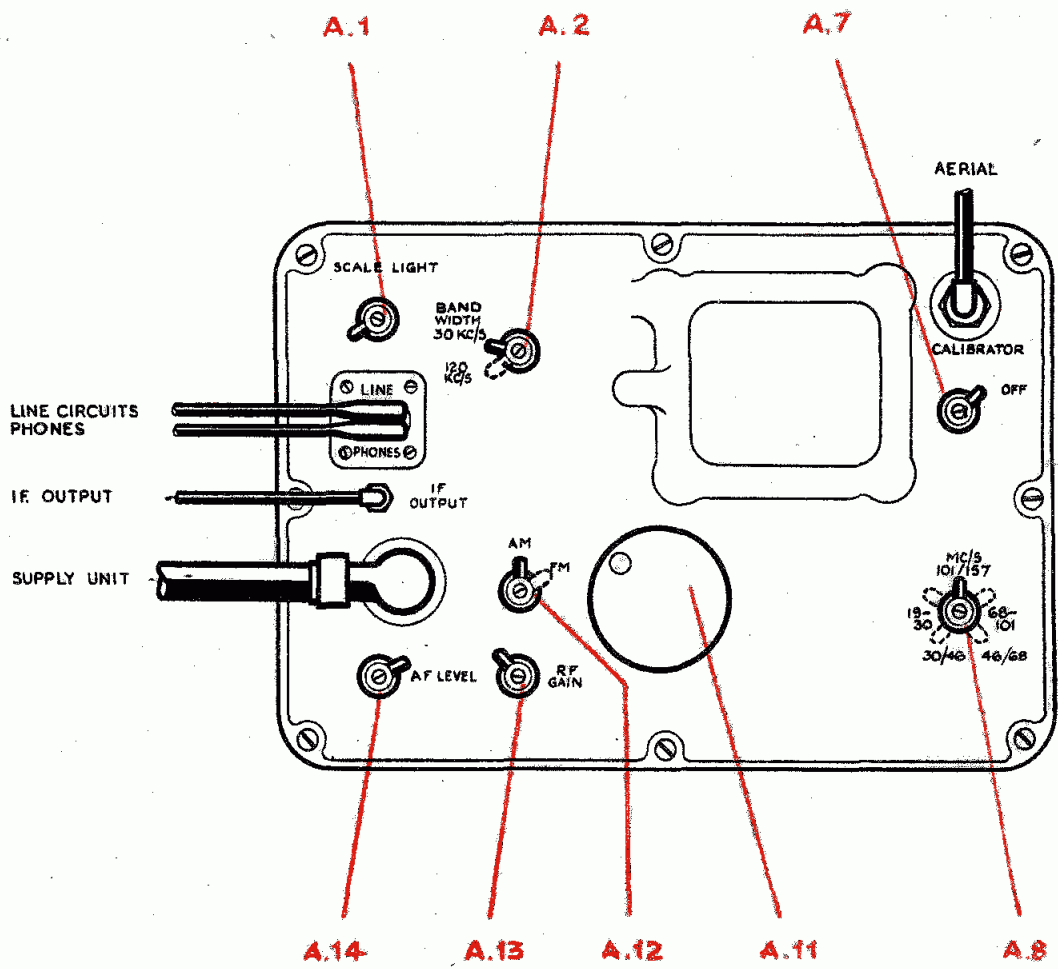

FIG. 14. TO TUNE THE RECEIVER FOR SEARCH PURPOSES
Refer to fig. 14.
- (2) Set the SCALE LIGHT control in the top left-hand corner of the receiver panel (A.1 in fig.14) to the required degree of brilliance, turning the switch clockwise to increase.
- (3) Check that the CALIBRATOR switch (A.7 in fig.14) is turned to the OFF position.
- (4) Check that the RF GAIN control (A.13) is in its fully anti-clockwise position.
- (5) Check that the AF LEVEL control (A.14) is at approximately the mid-point of its traverse.
- (6) Set the frequency band switch (A.8) to select the frequency band, over which it is intended to search. The frequency scale covering this band will then be illuminated by the scale light.
- (7) Set the system switch (A.12) to AM or FM as required. It should be noted that when listening on AM, an FM signal may be recognised by the fact that it will be distorted at the mid-tuning point but will become intelligible on either side of this point.
- (8) Set the BANDWIDTH switch (A.2) to "30 KCS" for AM, or to "120 KCS" for FM.
- (9) Turn the RF GAIN control (A.13) in a clockwise direction until receiver noise is heard.
- (10) Search for the required transmission by rotating the tuning control (A.11) slowly until a signal is heard in the headphones. If the approximate frequency of the required transmission is known, set the tuning dial to this frequency before commencing to search.
- (11) Adjust the RF GAIN control (A.13) to obtain a maximum output without overloading the set. This control will not necessarily be set to its fully clockwise position to obtain maximum output.
- (12) Adjust the AF LEVEL control (A.14) until the received signal is at a comfortable level.
- (13) When the transmission of signals to line is required and the operator at the remote end of the line requests an adjustment of level, this adjustment should be made by means of the AF LEVEL control and not the RF GAIN control.